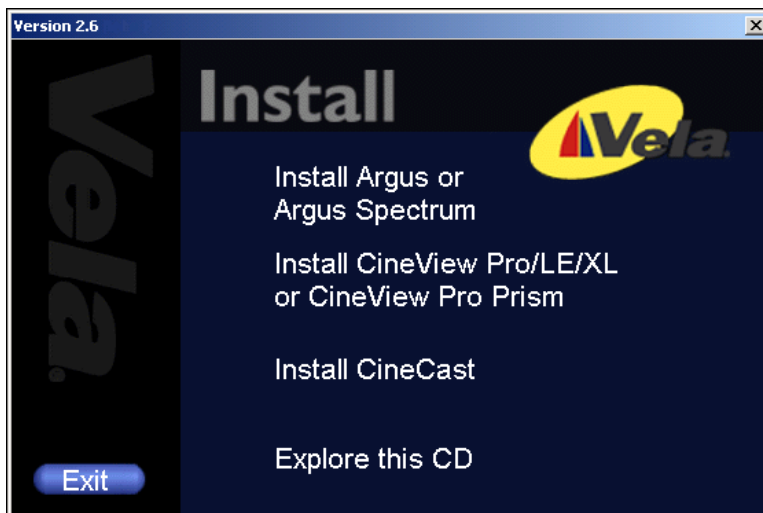
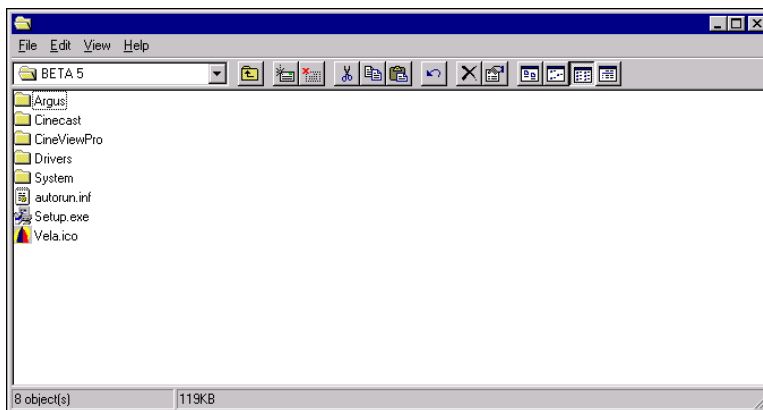

Figure 1-10. Installation Autorun Setup Screen
Figure 1-11. "Explore This CD" Screen
- When the Autorun setup screen (Figure 1-10) appears, select the “Explore This CD” option (Figure 1-11).
2. The Autorun setup screen (Figure 1-10) should appear after the system restart. If it does not, use Windows Explorer to select and run **setup.exe** from the CD-ROM or click Start > Run.